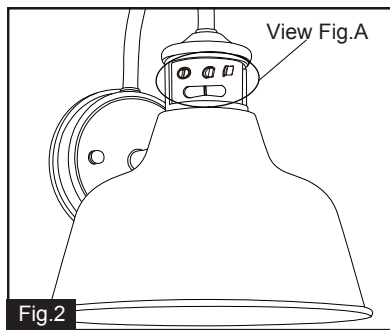

Fig.2
Step 2: Adjust time, low level brightness and sensitivity by knobs and choose the mode you want by slide switch. (See Fig.2 and Fig.A).